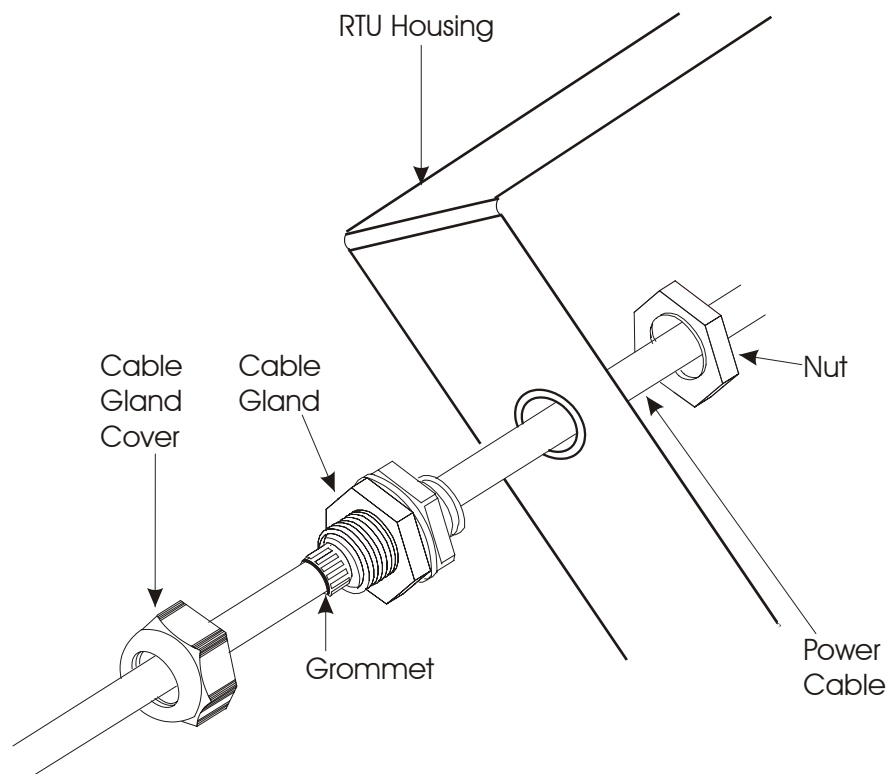

Figure 2-16 RTU in NEMA4 Housing – Cable Gland Anchor Point 2
Anchor point 2 for all units with housing (other than No I/O Slots) is in the housing power cable gland. (See Figure 2-16 below.)
- 2) Insert the rubber grommet (supplied) into the threaded plastic cable gland, and place it into the hole on the bottom of the housing (from the outside.) (See Figure 2-16.)
- 3) Place the nut into the same hole from inside the housing and screw the nut onto the cable gland. (See Figure 2-16.)
- 4) Thread the user's main power cable (110/220VAC or 24-48VDC) through the cable gland cover from below, through the cable gland, and into the housing. (See Figure 2-16.)